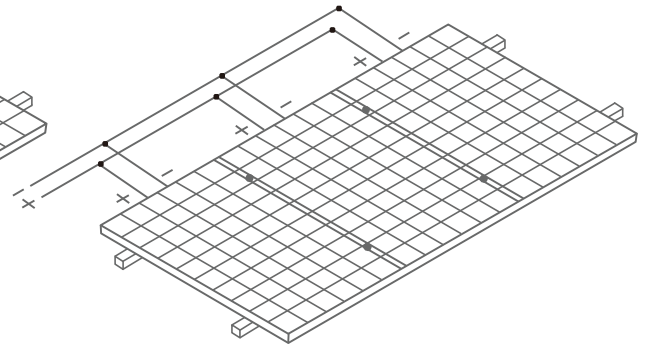

Figure 5 Connection in parallel
- When connected in parallel, the current output is equal to the sum of each string's current (as shown in Figure 5). Fuse is necessary for each module string. Take reference to the local regulation. Recommended maximum parallel Modules configurations: $\text{Fuse rating} / (1.25 * \text{short-circuit current})$.